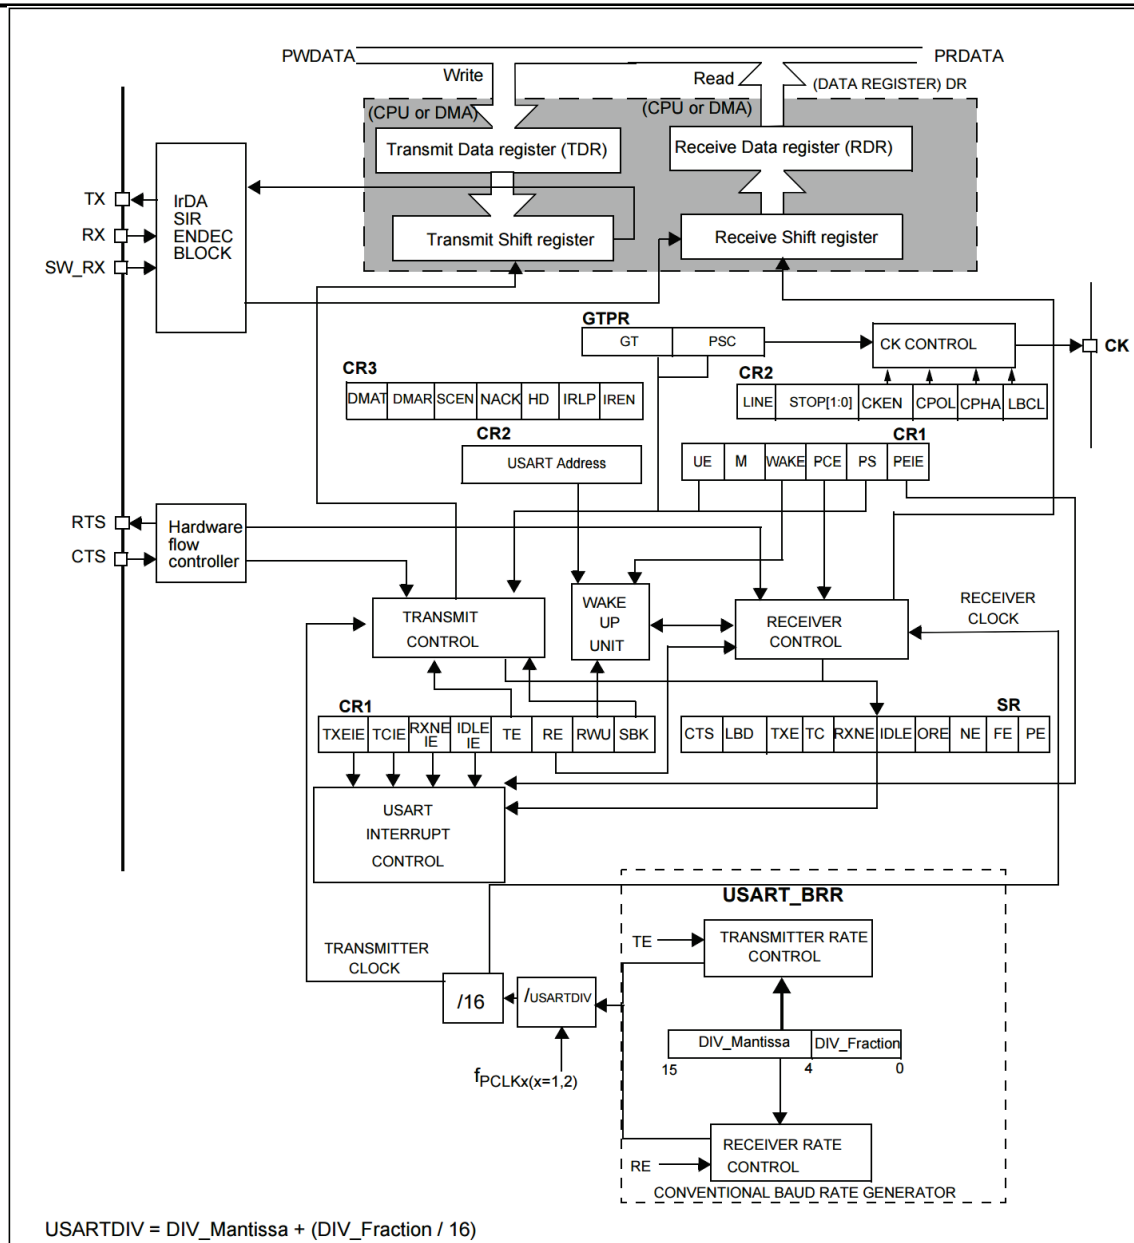

Figure248 USART Block Diagram
The interface is connected to other devices via three pins (see Figure 248). At least two pins are required for any USART bidirectional communication: receive data in (RX) and transmit data out (TX).
During a USART transmit, the least significant bit of data is shifted first on the TX pin. In this mode, the USART_DR register contains a buffer between the internal bus and the transmit shift register (see Figure 248).